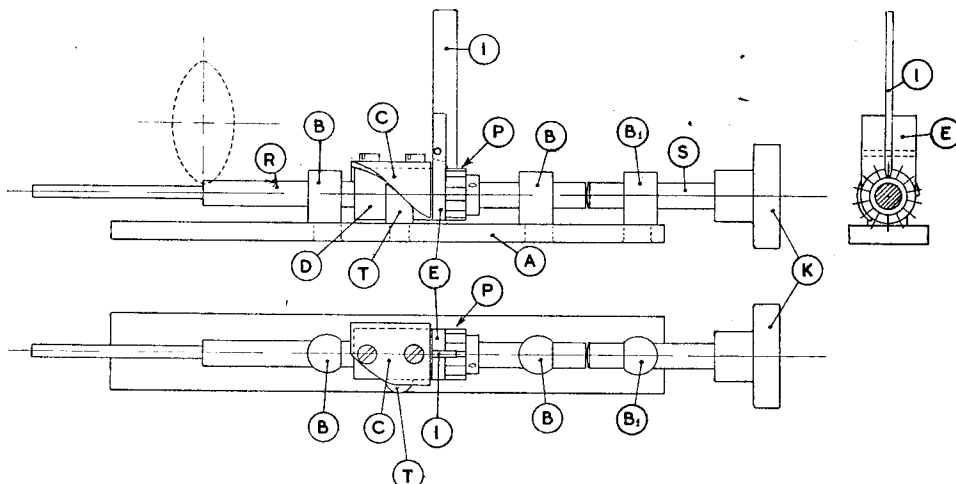

Fig. 2. Jig for cutting spiral pinions
This again requires a simple jig, the base of which consists of a length of  $\frac{1}{4}$ -in.  $\times$   $\frac{3}{16}$ -in. B.D.M.S. (A), Fig. 2. Through this base two standards BB are riveted. These consist of short lengths of  $\frac{3}{8}$ -in. diameter steel rod with one end reduced to  $\frac{1}{4}$  in. diameter, and the spigot thus formed passed through a hole in the base and riveted over. These two standards have a  $\frac{1}{4}$ -in. horizontal hole drilled through them at a height of  $\frac{3}{8}$  in. from the base. To facilitate the drilling of these holes, one side of each standard was filed flat. A third standard, B1, is fitted in a similar way, but has a  $\frac{1}{4}$ -in. tapped hole instead of a plain hole through it. Through this tapped hole a length of  $\frac{1}{4}$ -in. Whit. screwed rod, S, with a head, K, is screwed. This screw is used to feed the pinion against the cutter. The steel rod, R, to be formed into the pinion, is fitted through the standards, BB, and butts against the screw S.